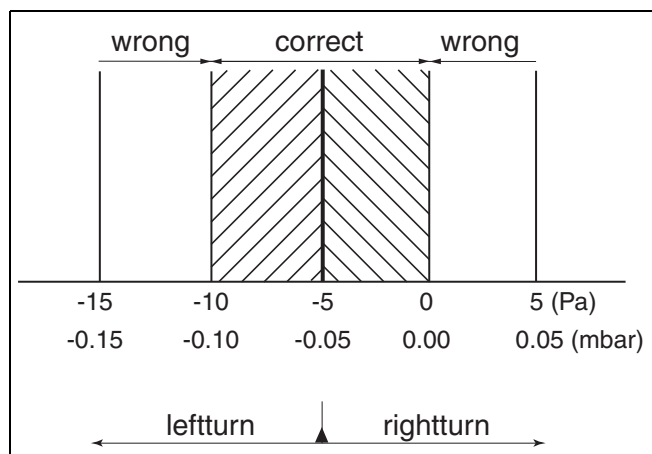

fig. 45 Pressure difference at gas/air at "L25"
The pressure difference should be between -10 and 0 Pa (see fig. 45).
- Adjust the adjustment screw of the burner pressure to the correct gas/air ratio using a (4 mm) socket head wrench and by referring to fig. 45.